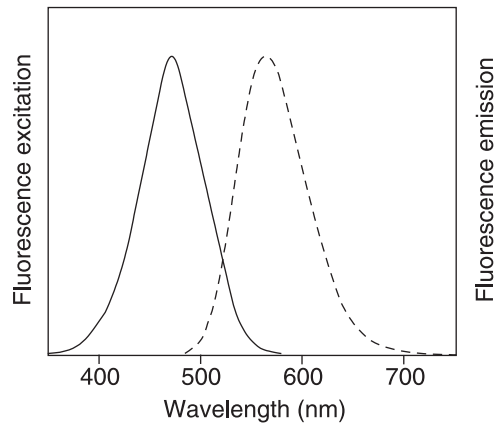

Figure 1. Excitation and emission maxima for the Quant-iT™ protein reagent bound to BSA.
**Approximate fluorescence excitation/emission maxima:** 470/570 nm (see Figure 1, page 2)
- 1.5 Measure the fluorescence using a microplate reader (excitation/emission maxima are 470/570 nm; see Figure 1, page 2). The fluorescence signal is stable for 3 hours at room temperature.